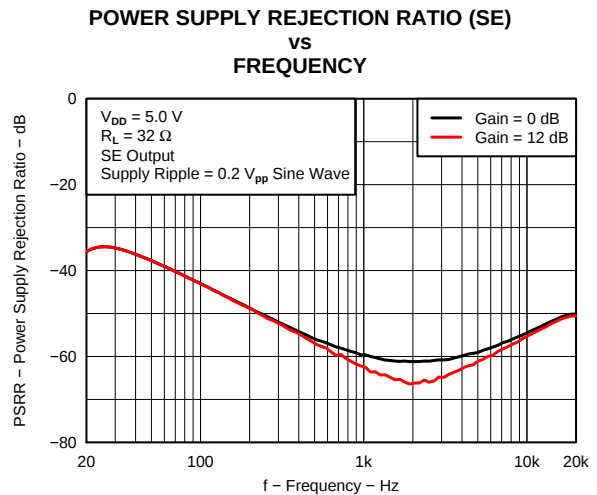

Figure 19.
| PSRR    Power supply rejection ratio (SE)           | vs Frequency          | Figure 19                    |